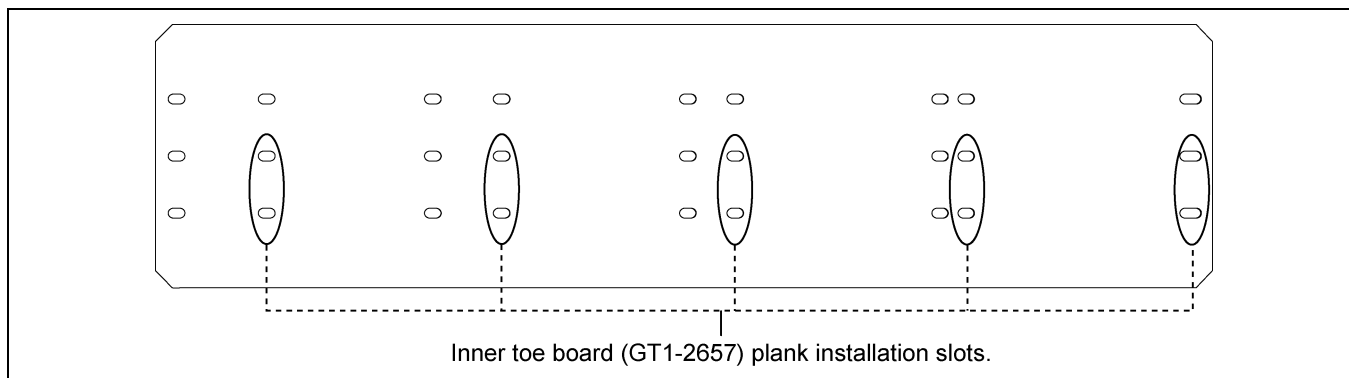

**Figure 4J**
1. Install planks (GT3-1669) around the dryer on inner toe board (GT1-2657) starting from ladder opening toe board (GT1-2659) as shown by arrow in the Figure 4J.
2. Planks (GT3-1669) are installed to bottom two (2) holes of the inner toe board (GT1-2657) using 3/8"-16 x 1" JS grade 8 or grade 8.2 bolts (S-7485) and 3/8"-16 ZN grade 5 nuts (S-968).
(See Figure 4J.)